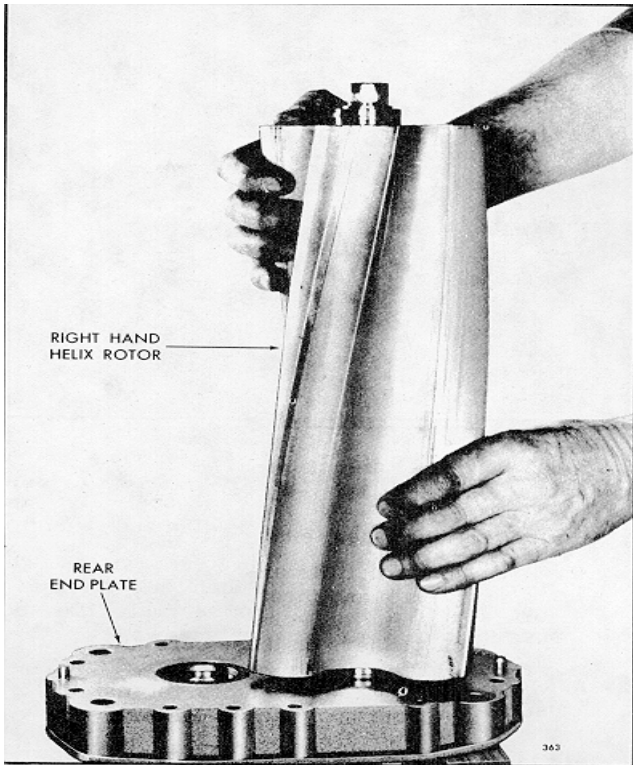

Fig. 20 - Installing Blower Rotor in Rear End Plate (Ring Type Oil Seals)
- b. Support the rear end plate on two wood blocks, approximately 4" high, with the inner face of the end plate facing up and the TOP end of the end plate facing to the right (Fig. 20).
- e. With the omitted serration in the spline, of the shaft facing toward the top of the end plate, start the splined end of the rotor shaft straight into the right-hand shaft opening in the end plate as shown in Fig. 20.